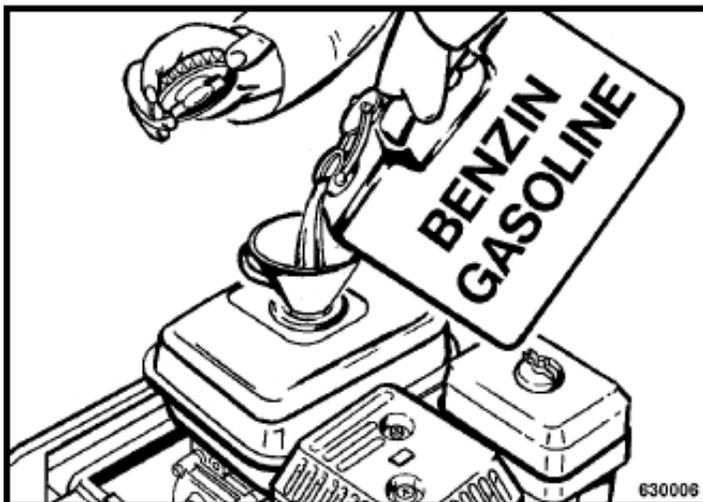

Fig. 30
- | Fill in fuel through a funnel with strainer (Fig. 30).